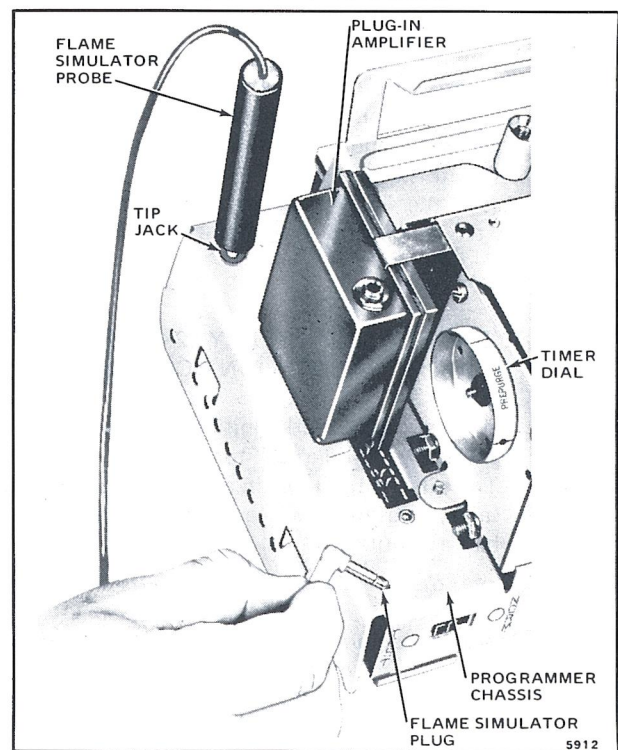

Fig. 12—Using a flame simulator.
- (1) Complete step 4.b., above, and close the master switch to start the programmer.
- (2) After at least 15 seconds but before 50 seconds, set the timer switch to TEST position and wait until the timer stops.
- (3) Plug the probe of a 123514A Flame Simulator into the tip jack on the front of the programmer chassis (Fig. 12).
- (4) Hold the plug (lead end) of the simulator against the programmer chassis. Relay 2K should pull in and stay in while the plug is in contact with the chassis.